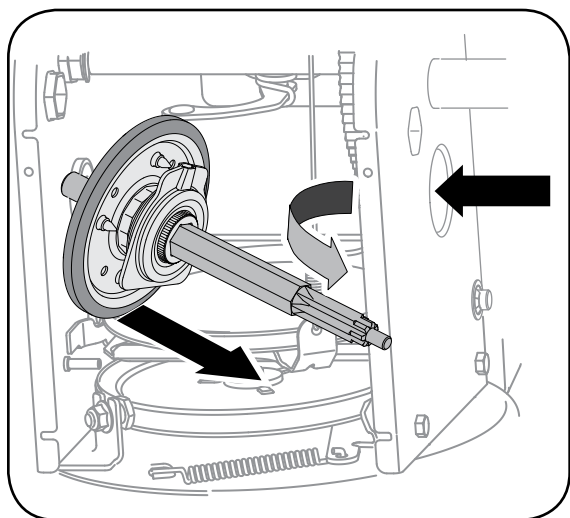

Figure 6-15
3. Carefully position the hex shaft downward and to the left before carefully sliding the friction wheel assembly off the shaft, Figure 6-15.